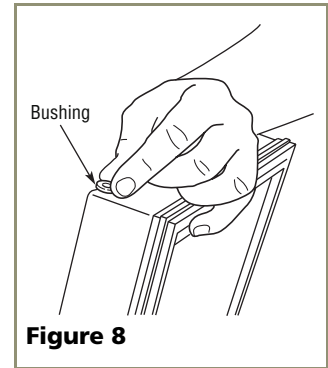

Figure 8
5. Relocate plastic spacer/bushing on bottom of door to opposite side, and place door on bottom hinge pin. See **Figure 8**. Clean out bushing hole in door bottom with a screwdriver if necessary.